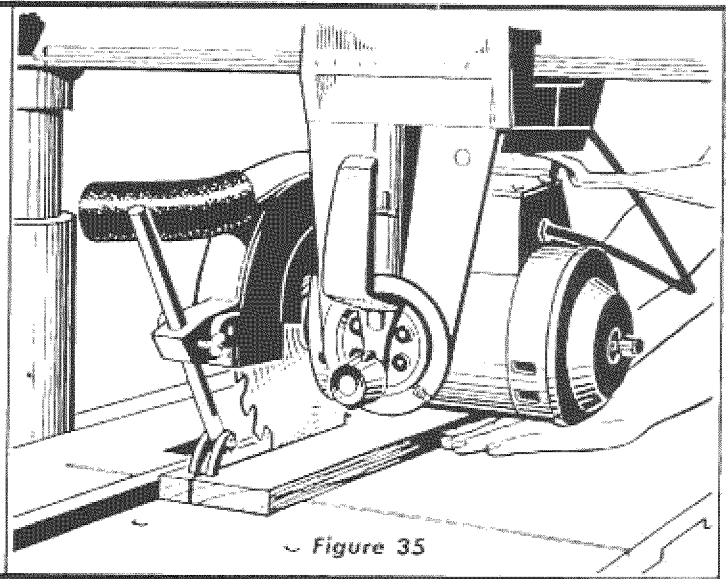

Figure 35
**IN-RIPPING**—*In-rip refers to a position when the blade is between the motor and the fence and parallel to the fence.* (See figure 35.) To place the saw in this position, unlock the yoke, disengage the swivel latch pin and rotate the yoke 90° clockwise (viewing it from the carriage) until the swivel latch pin automatically indexes the yoke 90°. Relock the yoke. See "Adjustment of Pointers" to check accuracy of "In-Rip" scale reading. Position the motor on the radial arm until the pointer on the "In-Rip" scale indicates the desired width of the finished cut board. Tighten the carriage lock knob securely. Position the discharge elbow on the guard so that sawdust will be blown toward the rear of the saw. Turn the saw "On" and lower the radial arm until the saw blade cuts into the table top about 1/32". Turn the saw "Off". Now adjust the saw guard and anti-kick pawl assembly as described in the paragraph "Ripping". The board to be ripped must be fed into the saw blade from the right side of the table, therefore, the normal position for the operator is also at the right side of the table. With the left hand safely clear of the blade and holding the board to be ripped down against the table and against the face of the fence as a guide, use the right hand to feed the board into the saw. The left hand should remain stationary, serving as a guide only. As the right hand approaches the left hand, hold a push stick with the right hand to complete the cut. Do not leave a long board unsupported so that the spring of the board causes it to shift on the table. A support like that described in "Cross-Cutting" can be used to support the board behind the blade; and if the board is very long, use another support in front of the saw. Ripped boards up to 8 3/4 inches wide can be cut in the "In-Rip" position when the fence is against the front table. With the fence moved to the extreme rear position, ripped boards up to 16 inches wide can be cut.